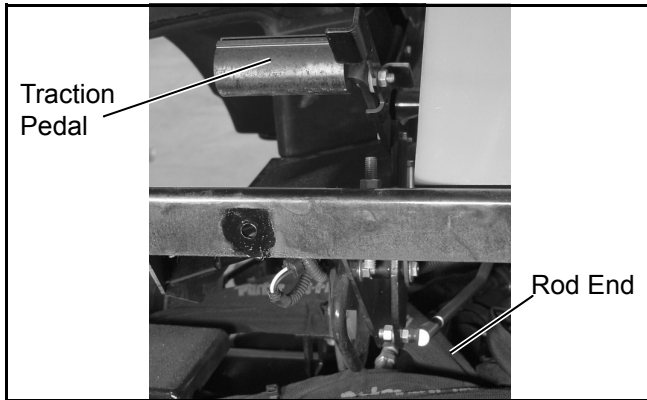

Figure 2C-6. Rod End
7. Connect the rod end (Figure 2C-6) to the traction pedal and tighten the jam nut on the rod.